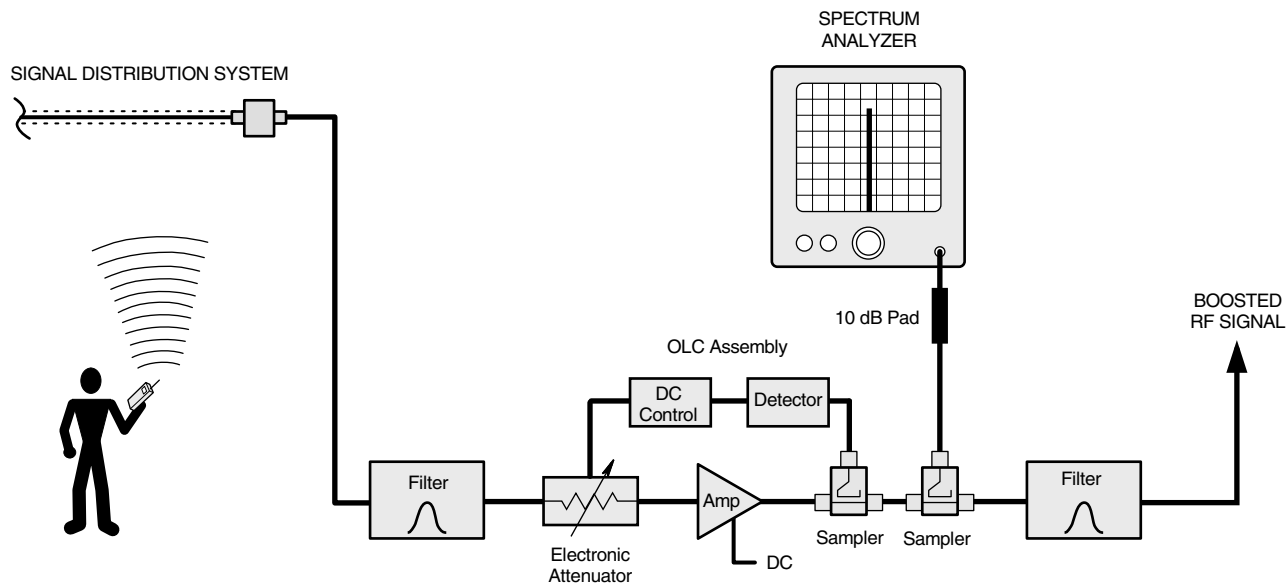

Figure 5: Test equipment interconnection for surveying performance.
- 3) With a spectrum analyzer connected to the signal sampler port (see figure 5), have personnel with handheld radios move to predetermined points and key their radios. Record the level of these signals as observed on the analyzer and also record the location of the person transmitting. In this way, a map of the systems performance can be generated.